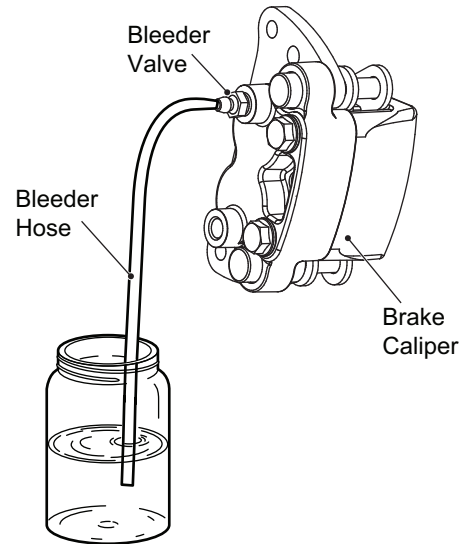

Fig. 8 Bleeder Valve
1. Attach a bleeder hose to the bleeder valve (Ref. Fig. 8). Put the other end of the hose in a glass container partially filled with brake fluid.